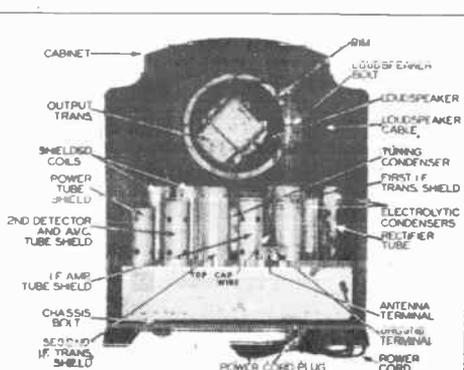

FIG. 2. An inspection of the rear of the set will show how the chassis and loudspeaker can be removed for a thorough overhaul.
**Remove Chassis and Loudspeaker.** Pull the power cord plug out of the wall outlet, and disconnect the antenna and ground leads to the receiver, as was done on the set shown in Fig. 2. Using a midjet screw-driver,